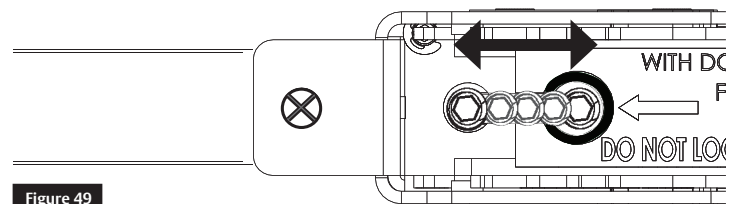
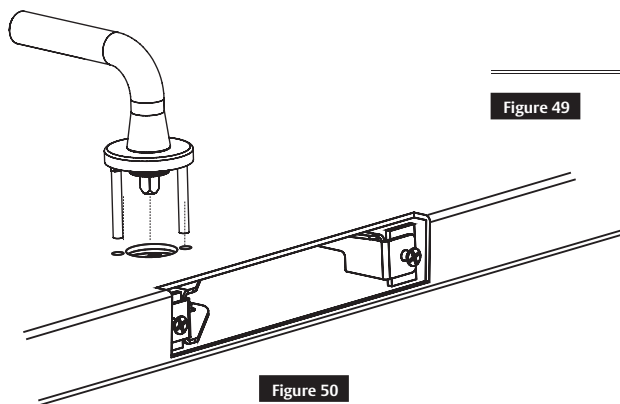

Figure 49
Figure 50
- Insert mortise trim in the door prep and cassette and rotate to verify latches fully retract (Figure 49). Confirm the set screw moves from circle to circle in the LBC viewing window (Figure 50). Do not install the mortise lock at this time.